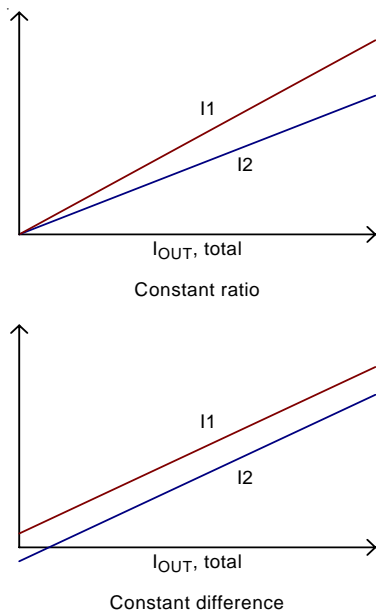

Figure 10. Category of Phase Current Imbalance
If phase current is not balanced due to asymmetric PCB layout of power stage, external resistors can be adjusted to correct current imbalance. Figure10 shows two types of current imbalance, constant ratio type and constant difference type. If the initial current distribution is constant ratio type, according to Equation (3), reducing RCSN[1] can reduce IL[1] and improve current balance. If the initial current distribution is constant difference type, according to Equation (2), increasing RCSP[1] can reduce IL[1] and improve current balance.